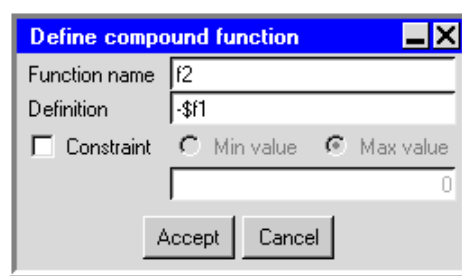

Figure 23.2.6: The Define compound function Panel
- (b) To create a compound function, click the **New** button under **Compound functions**. This will open the **Define compound function** panel (Figure 23.2.6). In the **Define compound function** panel. Specify the **Function name** and the **Definition** of the compound function. To define the compound function, the appropriate primary functions should be used. In the **Definition** box, the primary function name must be preceded by a \$ sign.